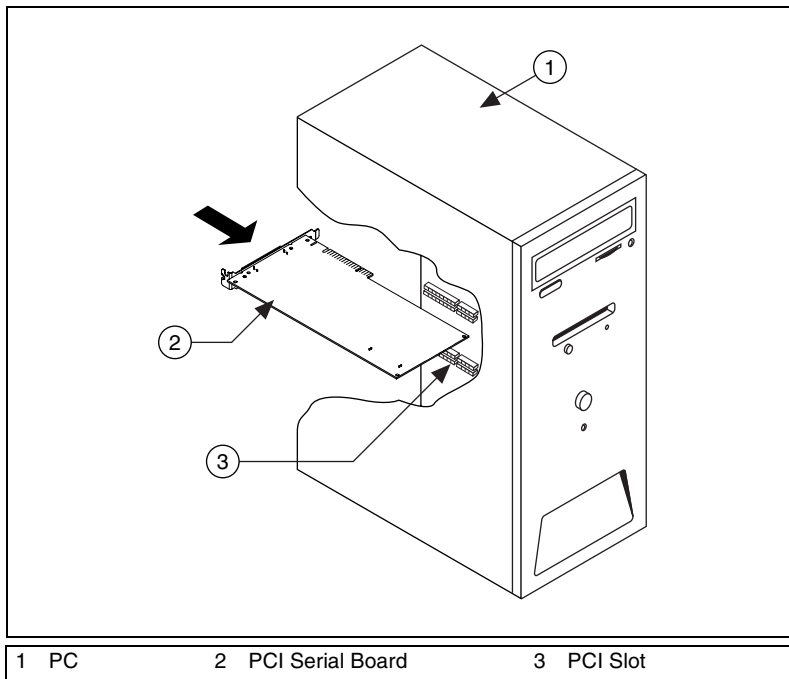

Figure 2-1. PCI Serial Board Installation
6. Insert the PCI serial board into the slot with the serial connectors toward the opening on the back panel. Make sure that you insert the board all the way into the slot. The board might seem to click firmly into place, even though it is only part of the way in. Figure 2-1 shows how to install the PCI serial board into an expansion slot.